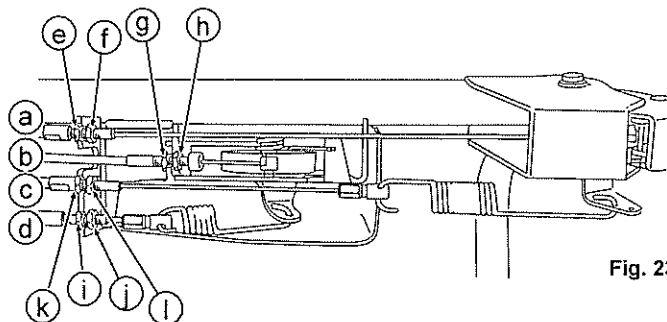

Fig. 23.
8.5.1 Throttle Lever (See Figs. 23 and 24.)
8.5.2 Blade Lever (See Figs. 23 and 25.)
8.5.3 Drive Clutch Lever (See Figs. 23 and 26.)
- 3 Confirm that the machine can be pull backward when Drive clutch lever (B) is released.
8.5.4 Gearshift Lever (See Figs. 23 and 27.)